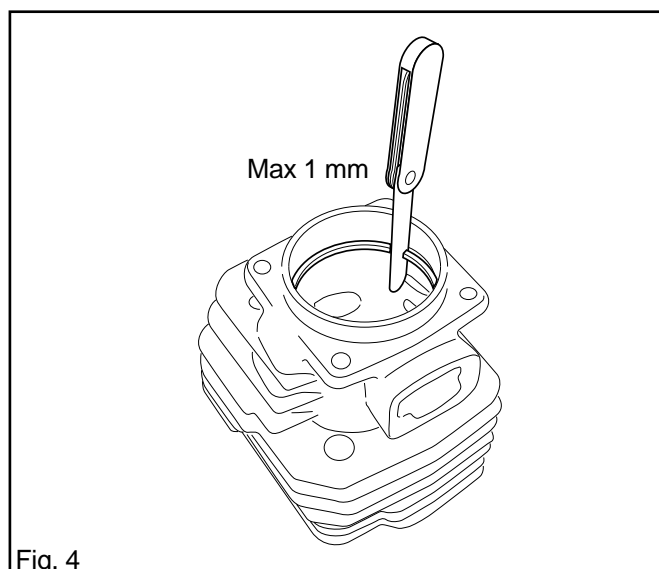

Fig. 4
5. Measure piston ring wear by placing it in the bottom of the cylinder bore and measuring the gap. See fig. 4. The piston ring gap should not exceed 1 mm.